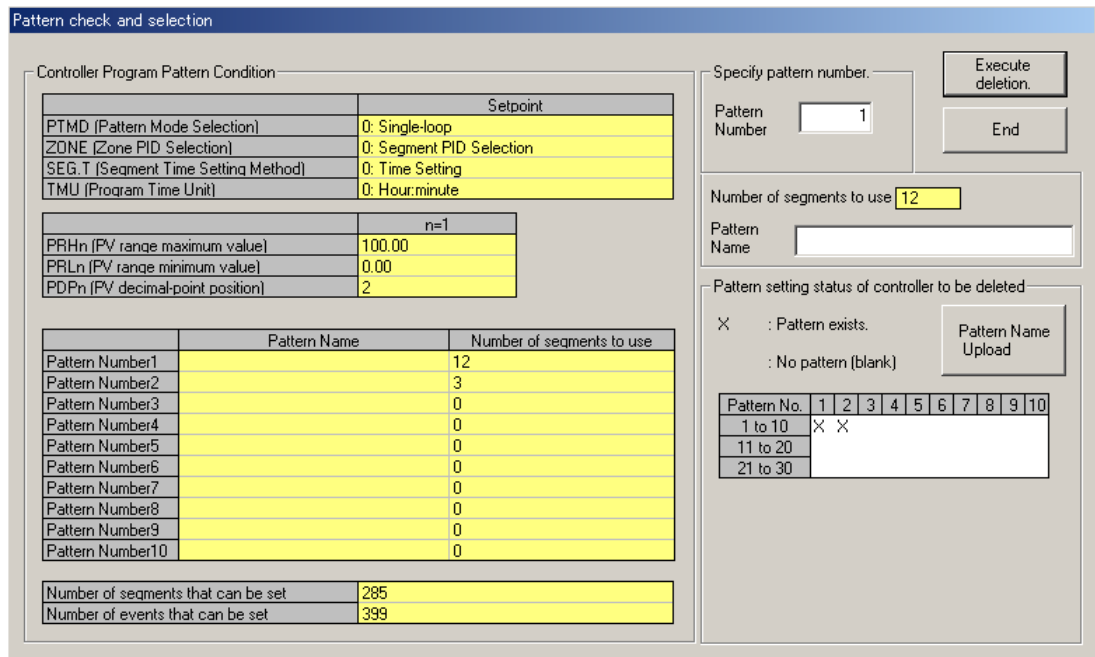

Figure 10.3.6 Pattern Check and Selection Dialog Box (Delete)
- (4) When communication is established, the Pattern Check and Selection dialog box (Figure 10.3.6) appears, showing the program pattern setting status of the controller.
- (5) Enter the pattern number in the **Pattern Number** box and click **Execute deletion**.
- (6) When the program pattern deletion is done, the tool displays a message informing you that the pattern in the controller has been deleted.